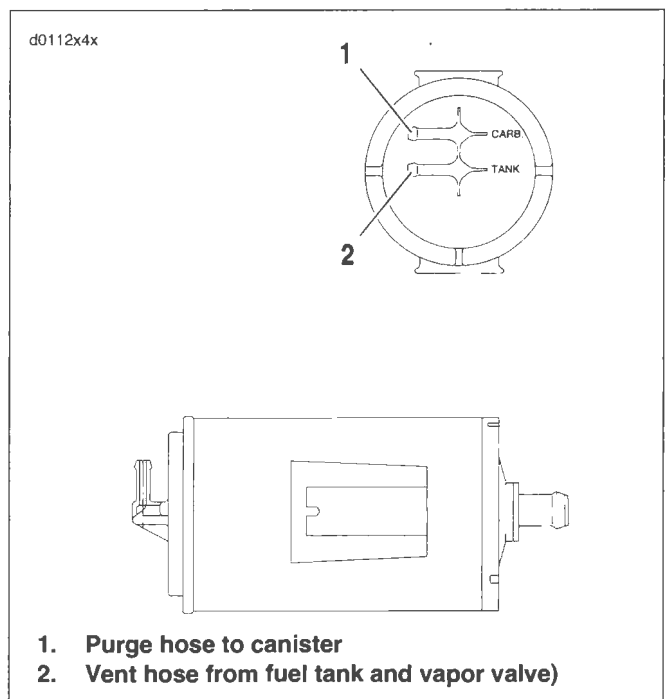

Figure 4-68. Charcoal Canister Connections
5. See Figure 4-68. Note the two hose connections on the left side of the canister. To ensure correct assembly, mark the hose to match the stamps on the canister. After hoses are marked, gently pull hoses off the canister.
2. See Figure 4-68. Attach hoses to left side canister nipples as marked.
- c. See Figure 4-68. Attach the purge hose to the canister fitting marked CARB on left side of canister.
- c. See Figure 4-68. Connect hose attached to bottom end of vapor valve to fitting marked TANK on left side of canister.